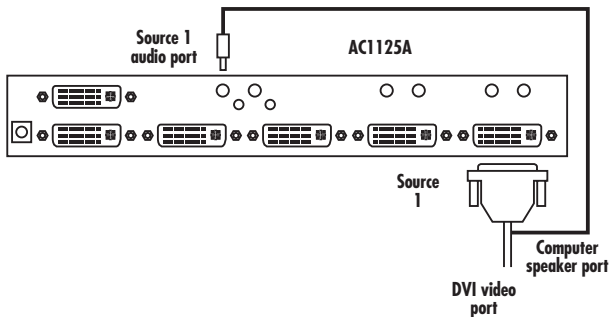

Figure 4-2. Linking the source's speaker port to the switch's source 1 audio port.
2. Connect the source's speaker port to the switch's source 1 audio port. See Figure 4-2.